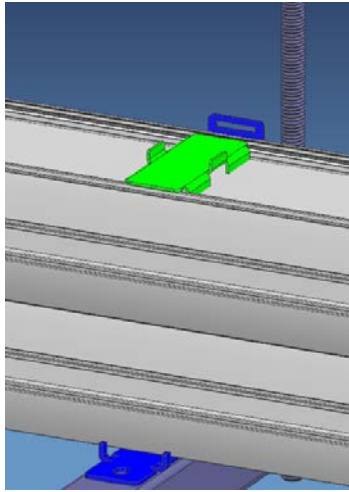

Figure 17 – Place top spacers
3. Once PEM module is fully engaged with PFM, align the top spacers with the base brackets and place on top of the PEM (Figure 17).